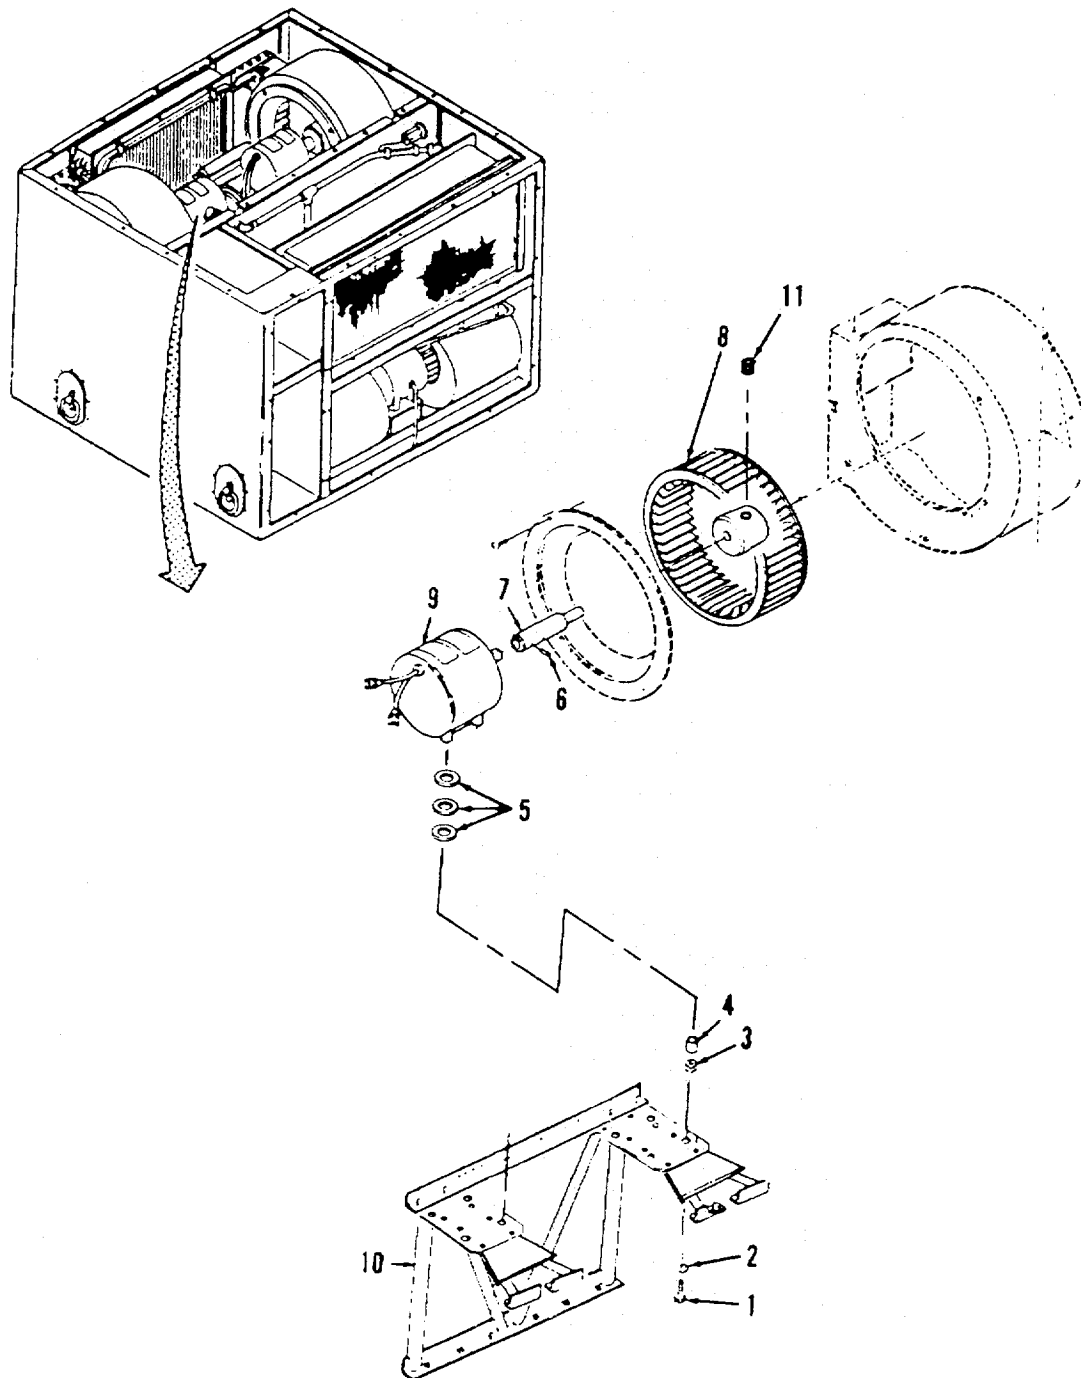

Figure 3-22. Condenser Fan Motors.
(1) Using an ohmmeter set on lowest ohms scale, check continuity between leads 1 (blue) & 2 (red), 1 (blue) & 3 (white), and 2 (red) & 3 (white) on connector P5 or P12, depending on which motor you are testing. Continuity should be indicated between these leads.
(2) Test continuity between leads 1 (blue) & 4 (black), 2 (red) & 4 (black), and 3 (white) & 4 (black) on connector P5 or P 12, depending on which motor you are testing. Continuity should NOT be indicated between these leads.
(3) Test for continuity between leads 1 (yellow) & 2 (violet) on connector P7 or P13 depending on which motor you are testing. Continuity should be indicated.
(4) Rotate motor shaft on each motor and check for smooth and quiet operation of shaft. Shaft should rotate smoothly and should not make grinding or binding noises.
(5) If either condenser fan motor fails any of the above tests, that motor must be replaced.
**b. Removal.** (Refer to Figure 3-22).
(1) Tag and disconnect all wires from condenser fan motor. Disconnect plug from receptacle J15 on EMI filter.
(2) Remove four screws (1), four flat washers (2), four grommets (3), four bushings (4), and twelve flat washers (5).
(3) Loosen two set screws (6) on shaft extension (7) and remove shaft extension from motor (9).
(4) Loosen set screw (11) on condenser impeller fan (8) holding shaft extension (7) into impeller fan and remove shaft extension from impeller fan.
(5) Remove condenser fan motor (9) from motor support (10).
(6) Repeat for other condenser fan motor.